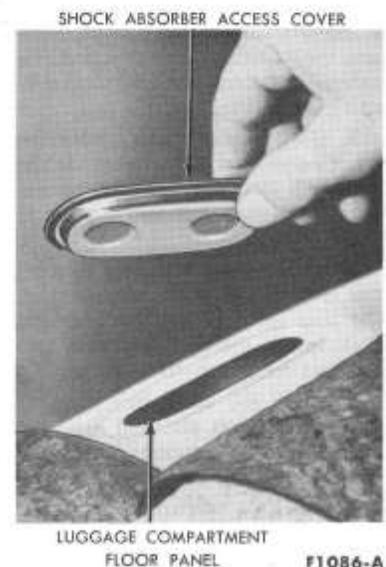

FIG. 9—Rear Shock Absorber Access Cover
2. On the passenger car, remove the shock absorber access cover from the luggage compartment (Fig. 9).